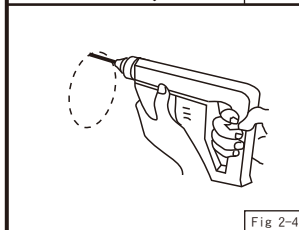

Fig 2-4
7. Drill a Hole on the Wall (Fig2-4):